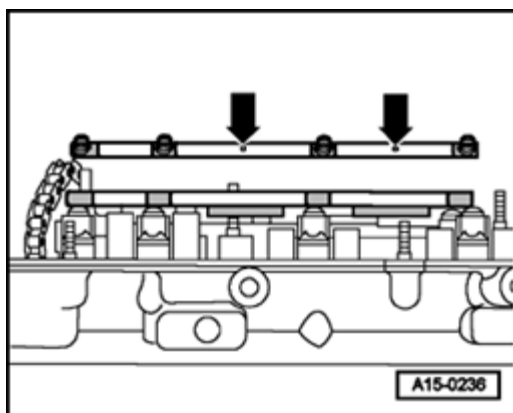

Fig. 4 Installation position of exhaust camshaft oil line
- ◆ Note installed position ⇒ Fig. 4